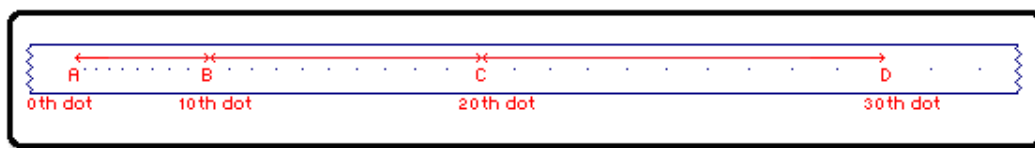

Figure 4.19: Example ticker timer tape
7. Observe the dots made on the tape by the ticker timer and label every 10 consecutive dots on the tape using a pencil (Ignore the first few dots, see Figure 4.19)